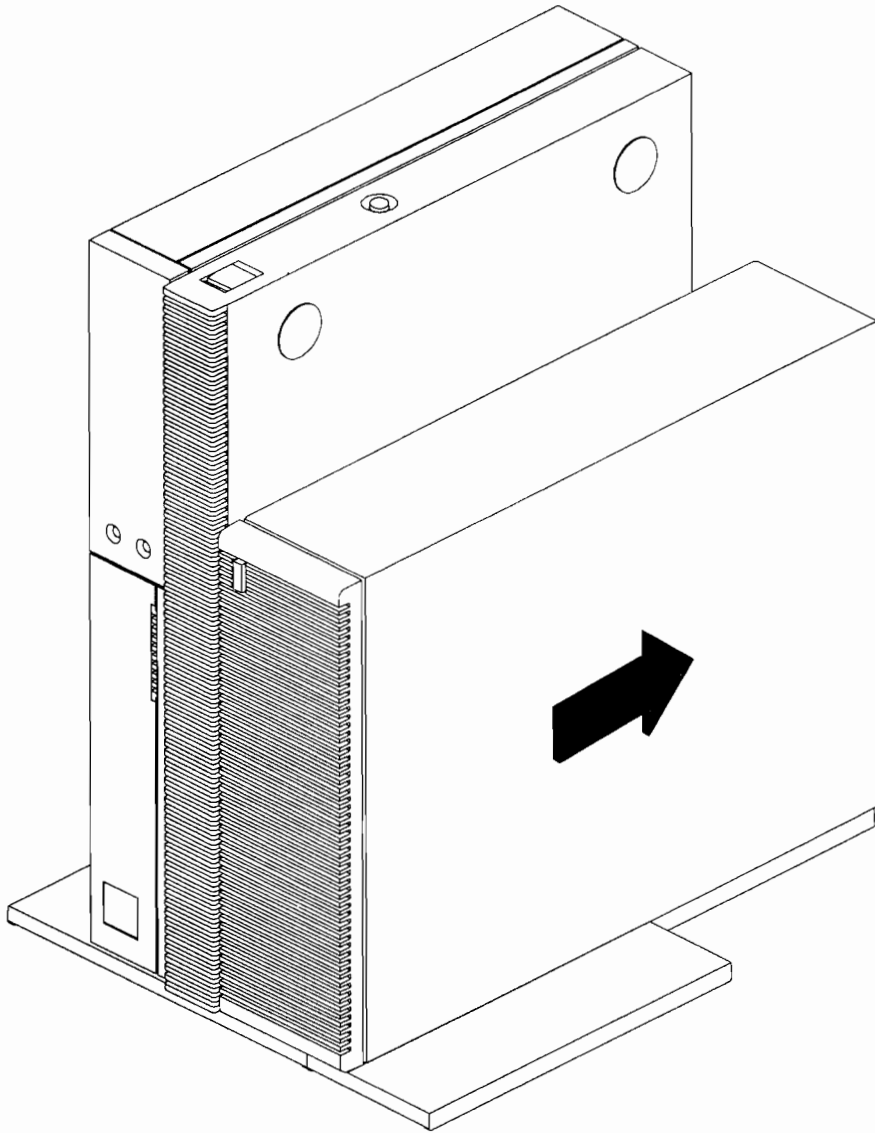

Figure B-1. Disconnecting the Optional Graphics Unit
- 3.** Disconnect and remove the optional graphics unit (if installed). If your workstation is installed in the deskside (standing) configuration, remove the graphics unit from the floor stand as shown in Figure B-1.